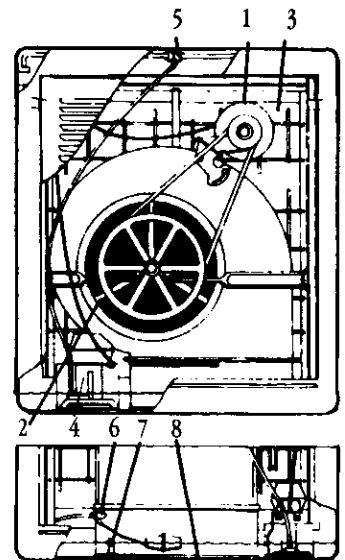

FIGURE 1
In **figure 1** are the major parts of your cooler that keep this process operating efficiently. The motor (1) drives the blower (2) which draws air from outside through the pads (3) saturated with water from the pump (4) via the water distribution system (5). The float valve (6) and standpipe (7) hold the water in a reservoir (8) at a constant level.